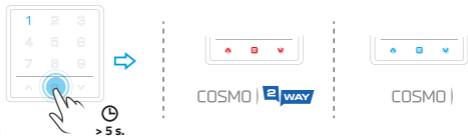

Fig. 15 > 5 s.
2. Press and hold the **STOP** button for about 5 seconds - Fig. 15.